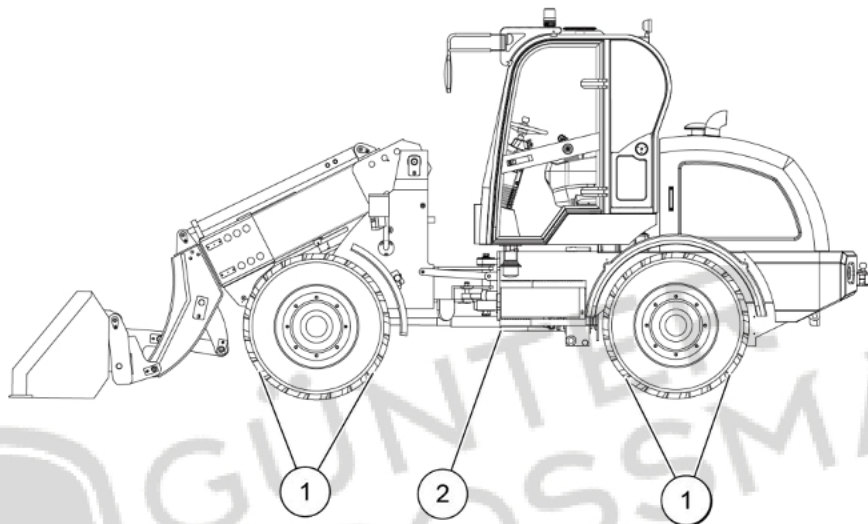

Figure 3-11 Fixed point
3)Use special fixed points to fix loader to prevent loader from tipping or rolling, as shown in Figure 3-11.